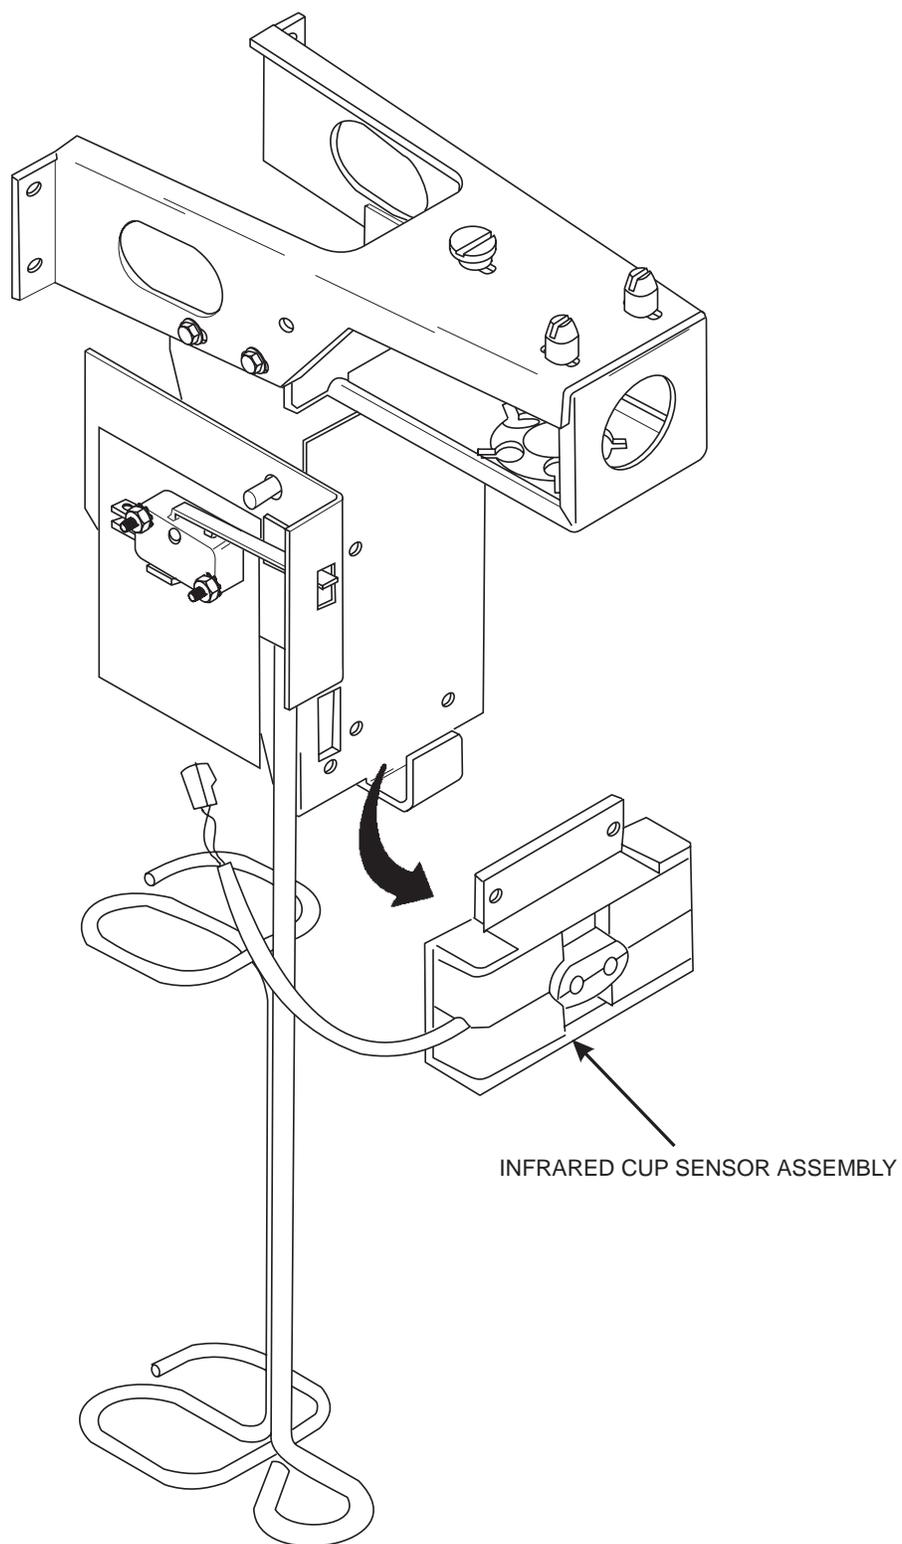

Figure 2
2. Disconnect the wiring harness from the infrared cup sensor assembly (if installed), and remove the infrared cup sensor from the machine (Figure 2). Keep mounting screws for later use.